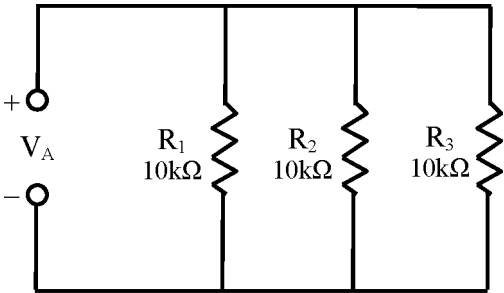

Figure 17-1
1. Connect the circuit as shown in Figure 17-1.